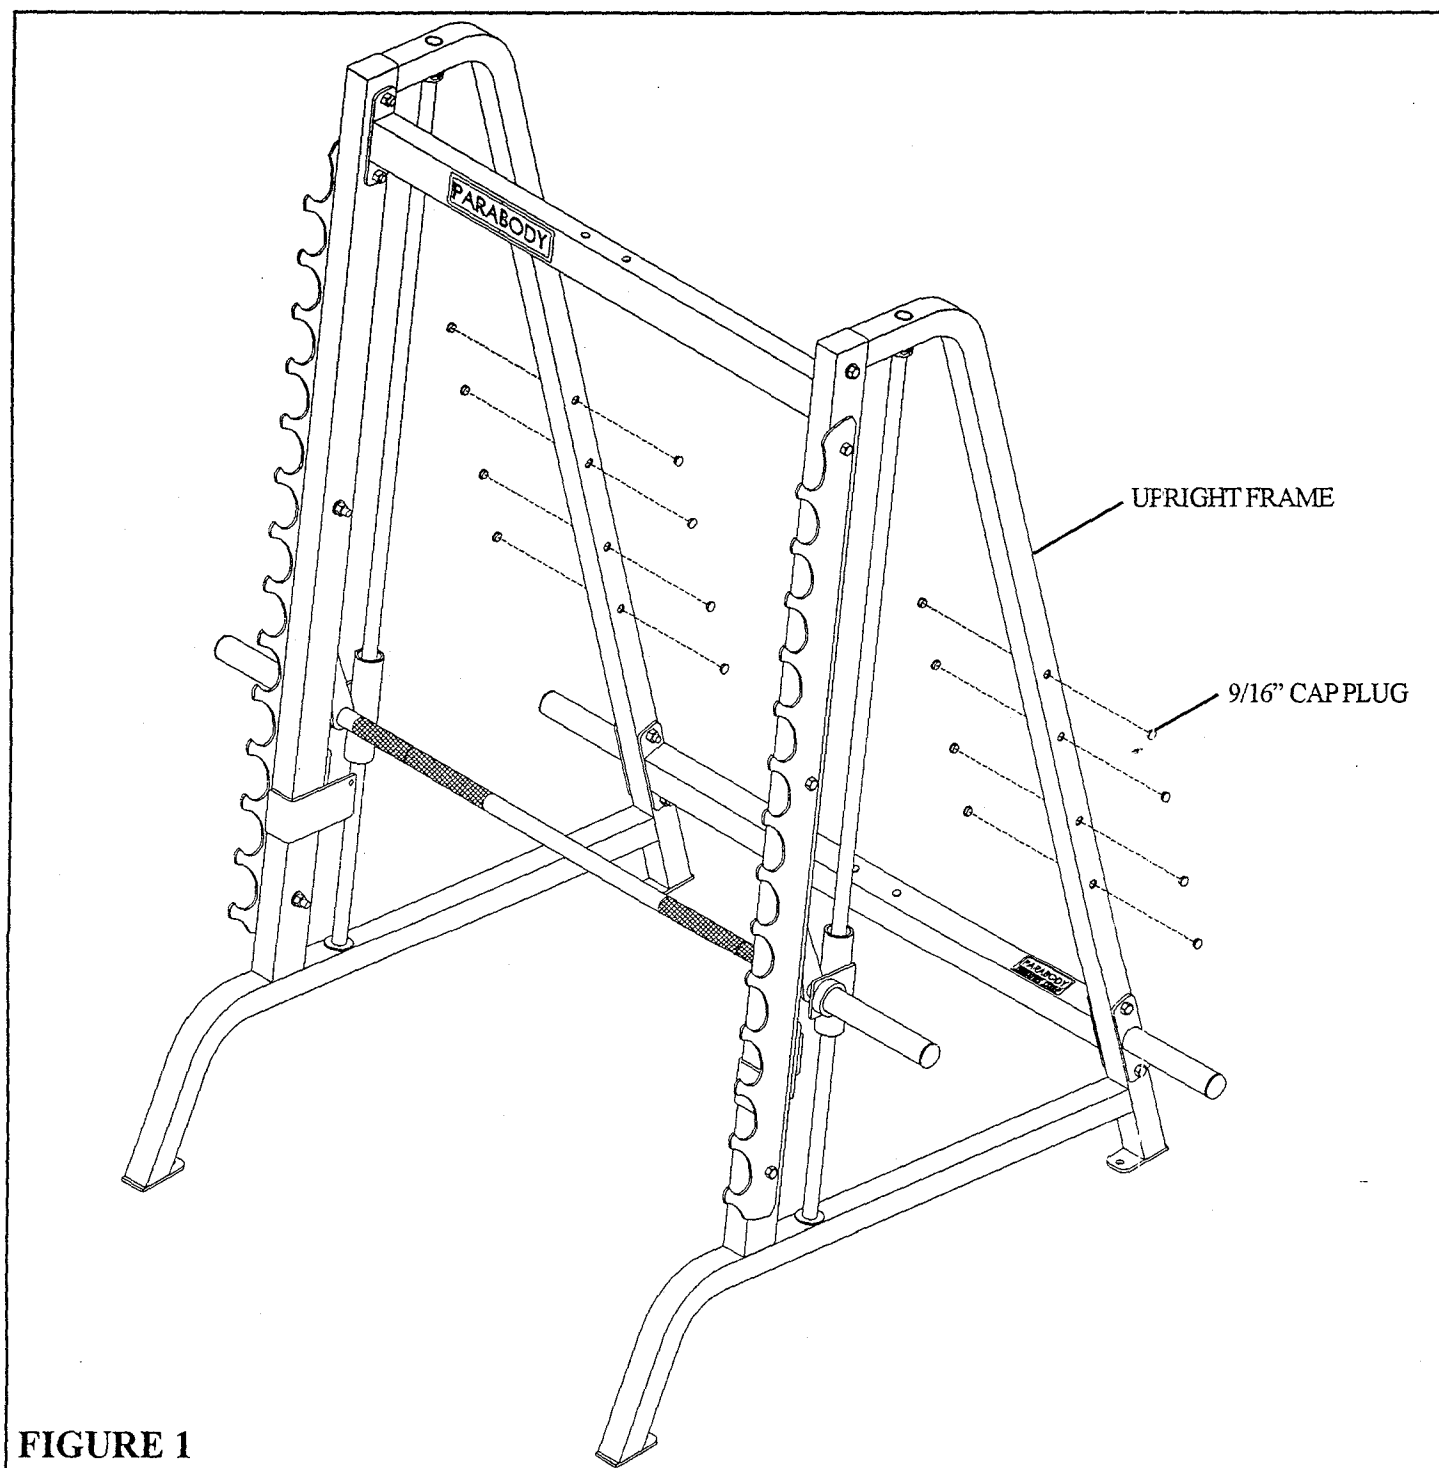

FIGURE 1
- Remove and discard the eight 9/16" CAP PLUGS from the UPRIGHT FRAMES as shown in FIGURE 1.